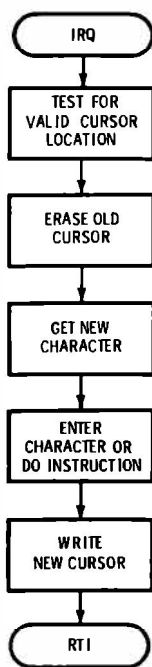

Fig. 2-19. Simplified flowchart of a typical Cursor control program.
Fig. 2-19 shows a simplified flowchart for a typical Cursor. We can enter our Scan program by way of an interrupt, any time a key is pressed. We then test for a valid Cursor location. If we are somewhere legal on the screen, we erase the old Cursor. We then decode the keypressed entry. If it is a character, we go ahead and enter it. If it is a machine command, we decode this command to see if it applies to us. We then carry out any valid command. Typical machine commands include *Clear* (CAN), *Carriage Return* (CR), *Backspace* (BS), and so on.